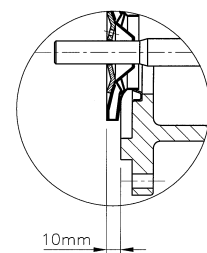

Figure 9
12. Slide First Stage Impeller (62) onto Shaft, apply a medium strength thread locking adhesive (eg Loctite 243 or equivalent) to the three screws and lock Impeller so that the distance from the stepped face on Suction Manifold to the outside face of Impeller is 10mm. (Refer Figure 9)